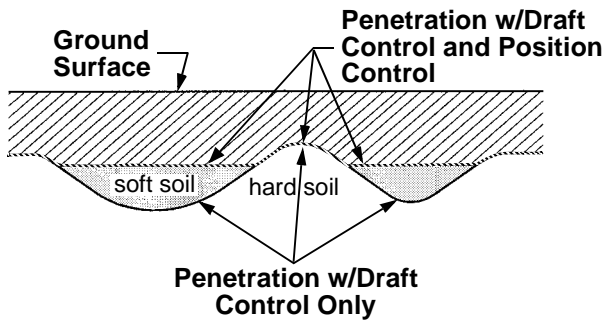

Figure 31
- Use a combination of the two levers to set the height of the implement while also controlling the drag on the tractor. Refer to Figure 31.